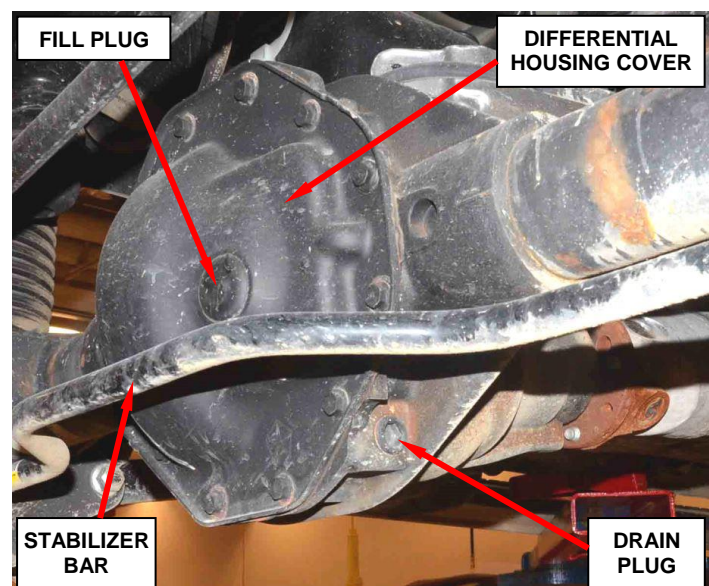

Figure 4 – Drain Rear Axle Fluid
7. Remove and save the rear axle oil drain plug to drain the rear axle fluid (Figure 4).